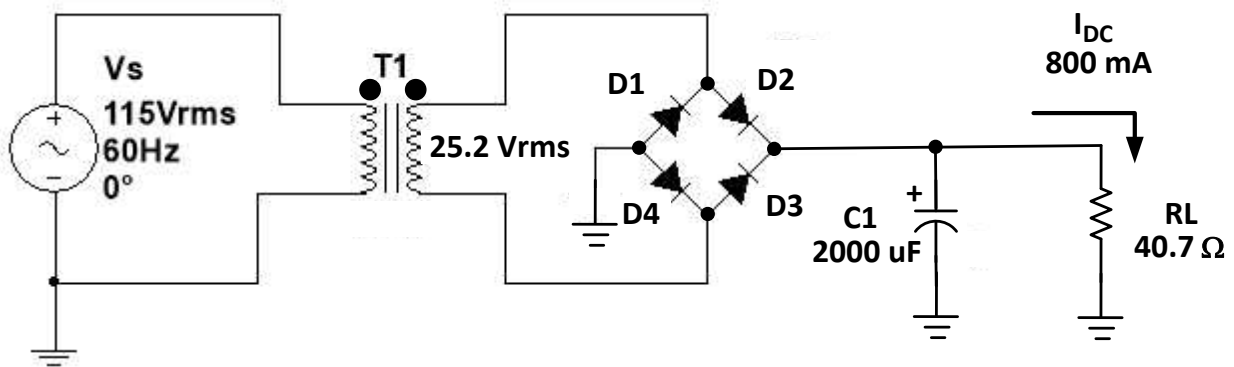

Figure 4-80.
- 4-59 Analyze the DC power supply shown in Fig. 4-80. The **transformer secondary voltage** is **$25.2\ \text{Vrms}$** . The load resistance (R_L) is **$40.7\ \Omega$** . The capacitor (C_I) is a **$2000\text{-}\mu\text{F}$** unit. The DC load current (I_{DC}) is **$800\ \text{mA}$** . Find V_m , V_{dcm} , $V_{r(p-p)}$, $V_{dc(min)}$, V_{DC} , $V_{r(rms)}$, the $\%r$, and determine the required WVDC rating for the capacitor. Check that we have a lightly loaded filter.
- 4-60 Analyze the DC power supply shown in Fig. 4-80. The **transformer secondary voltage** is now **36 Vrms**. The load resistance (R_L) is **40.7 Ω**. The capacitor (C_1) is a **1500-μF** unit. The DC load current (I_{DC}) is **300 mA**. Find V_m , V_{dcm} , $V_{r(p-p)}$, $V_{dc(min)}$, V_{DC} , $V_{r(rms)}$, the $\%r$, and determine the required WVDC rating for the capacitor. Check that we have a lightly loaded filter.